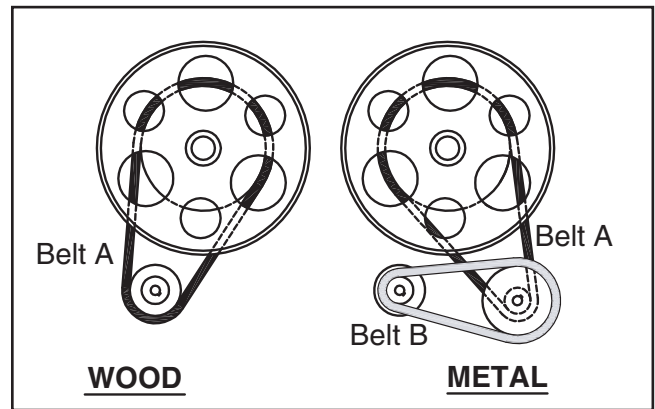

Figure 40. V-belt positions for speed ranges.
4. Refer to **Figure 40** to locate the correct V-belt position for the desired speed range.